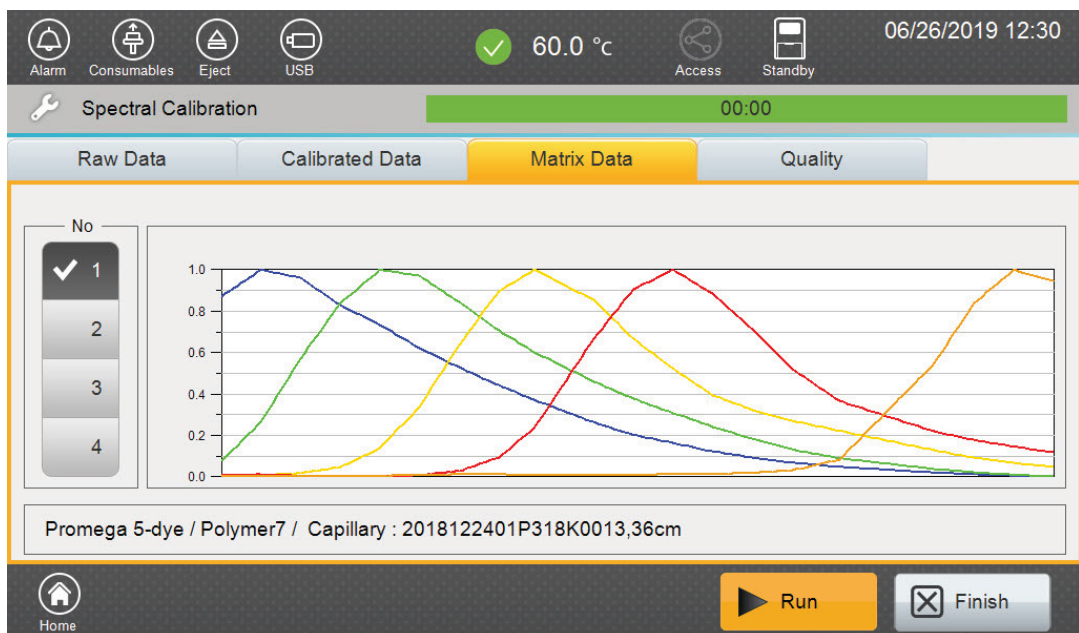

Figure 12. Spectral Calibration 'Matrix Data' tab screen.
3. The 'Matrix Data' tab can be used to view emission spectra for each capillary (Figure 12).